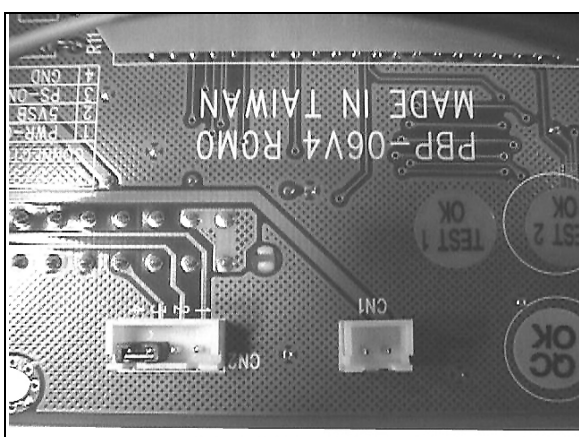

Fig.5
3. If you are using ATX power supply, you may also apply a jumper over pin-3 and pin-4 of CN3. In this application, the 4-pin ATX power control cable is not required, and your ATX power supply will then act as a AT power supply (**Fig.5**).